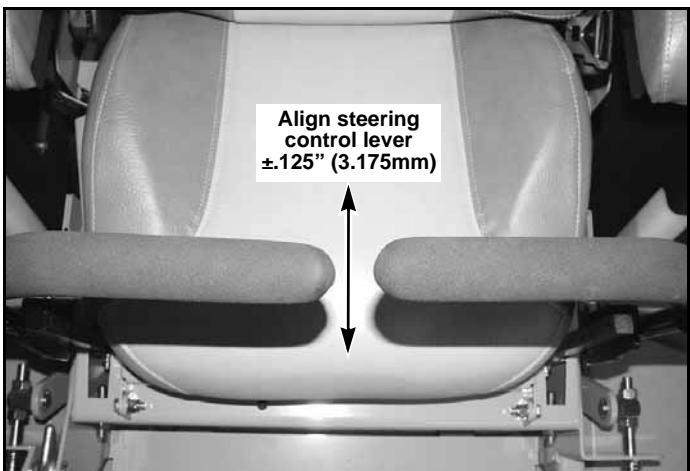

**Figure 4-7**
3. Loosen the steering damper's rear ball stud. Figure 4-7
4. Pull the damper spring housing past the point that the internal spring is engaged. Figure 4-7